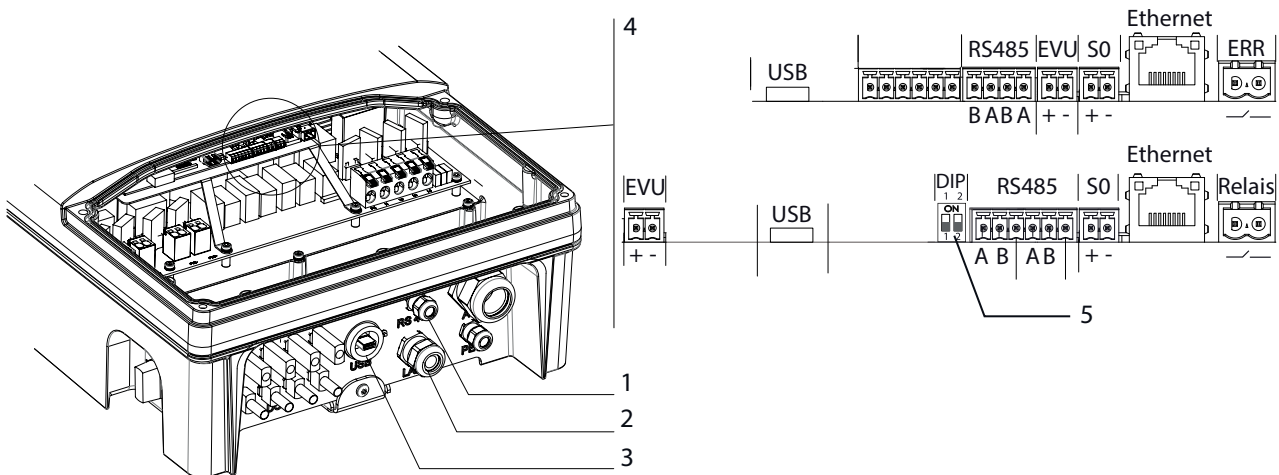

Figure 22: Connection area: Connection and assignment of the interfaces Top: variant 1. Bottom: variant 2.
All interfaces are located on the connection circuit board behind the cover for the connection area. Use the cable fittings and plug connections provided (see Figure 22 on page 24).
1. Loosen and remove the cover of the cable fitting (see Figure 22 on page 24).
5. Connect the connection cable to the Ethernet interface (see Figure 22 on page 24).
1. Unscrew the cable fitting (see Figure 22 on page 24).
1. Connect the connection cable to the corresponding connection terminals (Figure 22 on page 24).